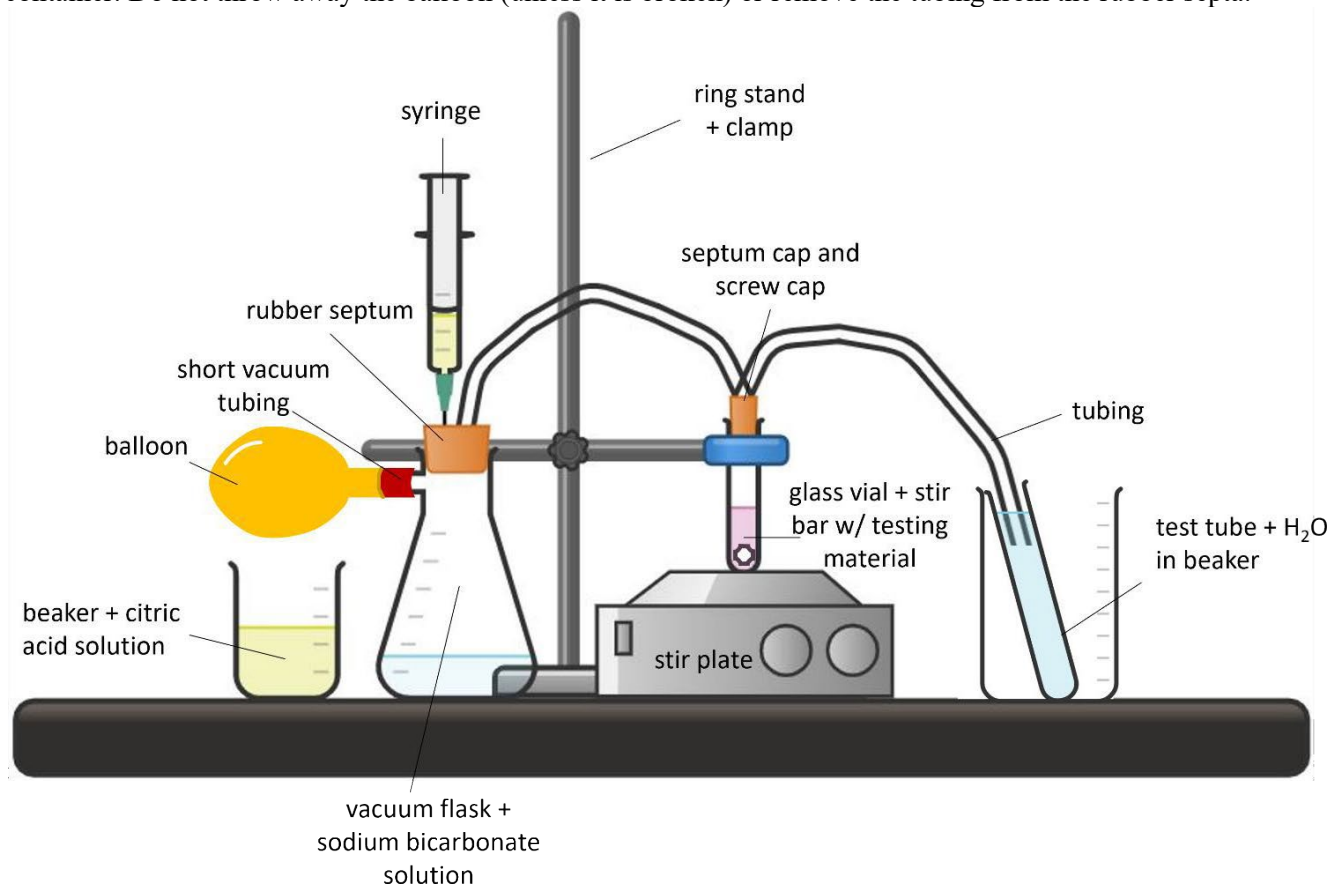

Figure 1: Carbon capture apparatus. Original design by Myrria Lyncee. Illustration made in Chemix by Elise Eng
3. Using Figure 1 and the example apparatus as a guide, construct the carbon capture apparatus.